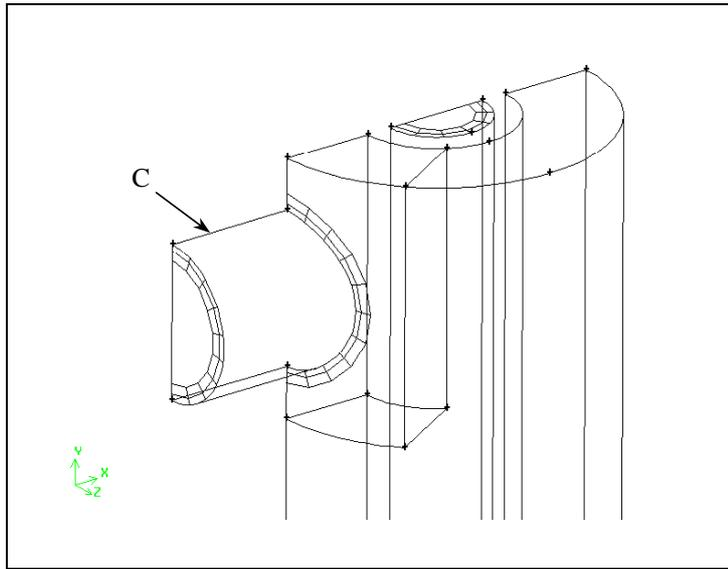

Figure 7-32: Volume to be meshed
1. Mesh the volume marked C in Figure 7-32.
- a) Select the volume marked C in Figure 7-32 in the graphics window.